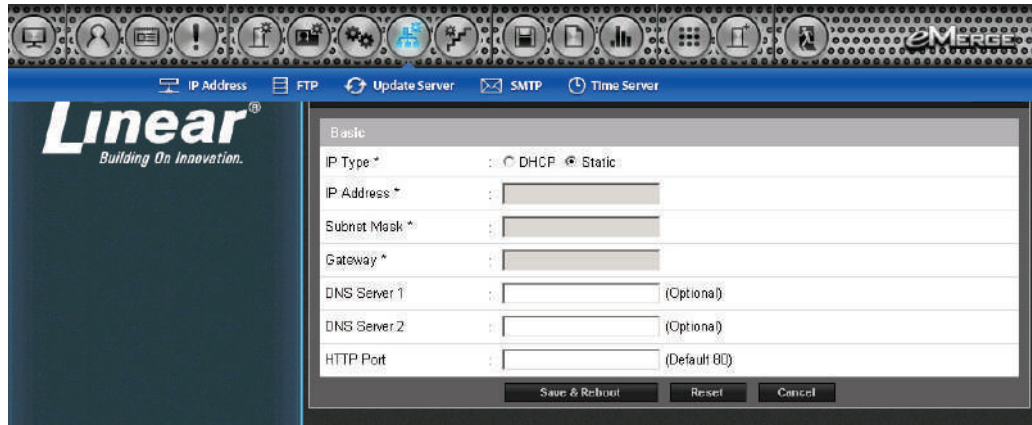

Figure 7.3. Network Settings Page
5. Browse to the Network Configuration (IP address) page as shown in Figure 7.3. Enter the static IP address, Subnet Mask, Gateway and DNS server so that it matches the requirements of the local network. (Refer to the User Manual for complete programming information.)